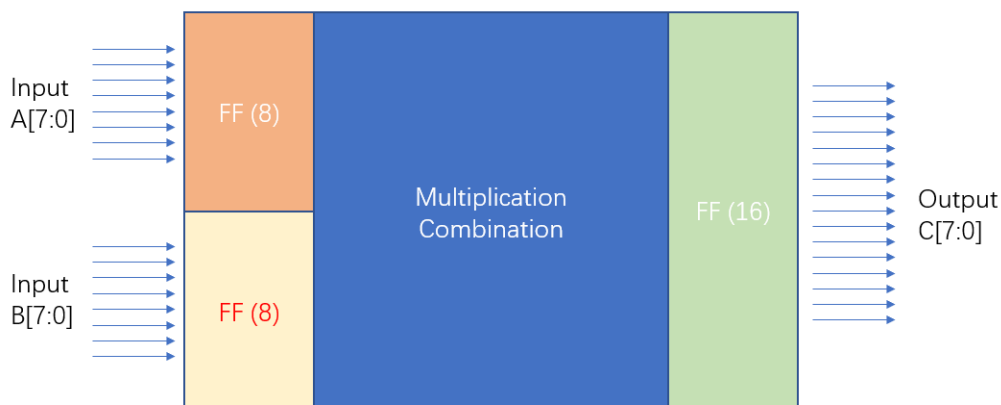

Figure 3: Block diagram of layout
- You will have to try building your layout looks like a square shape. All the input signals should be given from the left-hand side and all the output signal should be connected at the right-hand side. For Figure 3, all input given from vector file are connected to the flip-flops and all outputs generated from the logic combination should also be connected to flip-flops.